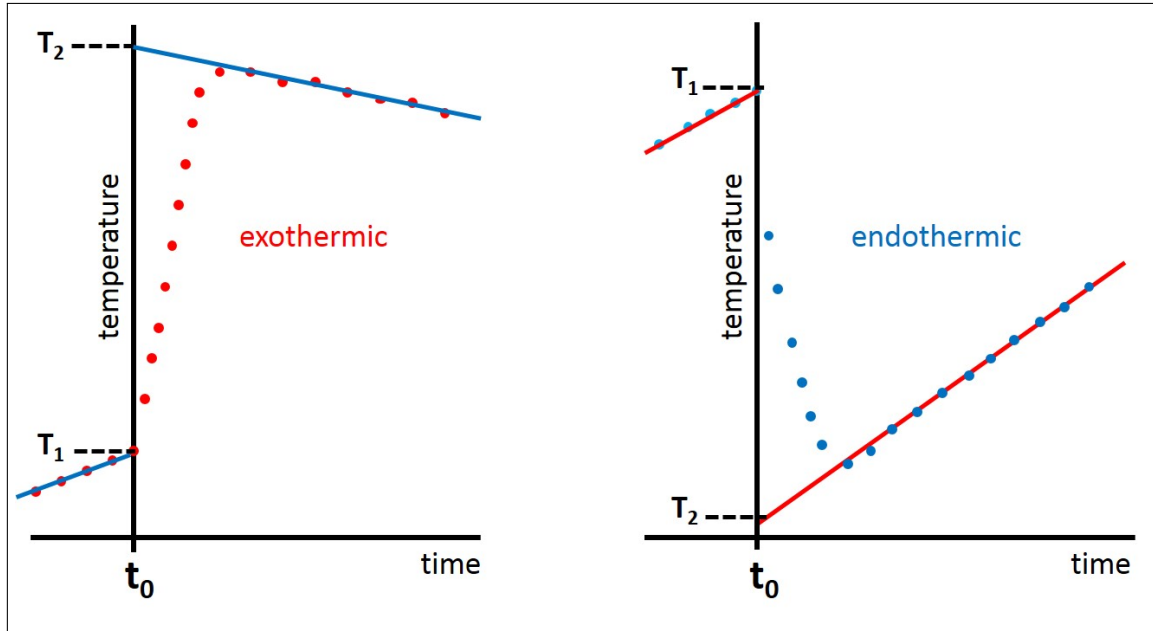

Figure 1: Calorimetric temperature – time curves and their evaluation.
2. The investigated process often does not take place instantaneously, which allows heat to be exchanged with the surrounding (environment), i.e., some of the heat to be determined disappears. This can be avoided either by using – usually expensive – thermal insulation materials and complex technical solutions, or by examining the pre- and post-life of the process. The latter method is illustrated in Fig. 1, where the curve on the left illustrates the measured temperature change of a process involving heat release and the curve on the right illustrates the temperature change of a process involving heat absorption. The process to be tested starts at time  $t_0$ , but the system temperature is recorded long before it. The time between the start of temperature recording and the start of the process is called the pre-period. The start of the main period is  $t_0$  and the main period includes the duration of the complete process studied. During the main period, the temperature change is determined by the heat of the process, but the heat exchange with the environment also begins. In the following post-period, the process, studied, has already taken place, here only the heat exchange with the surrounding determines the change in temperature. While a very sharp boundary can be drawn between the pre- and main periods at  $t_0$ , the transition between the main and post-periods is continuous, as shown in Fig. 1. If the temperature change in the pre-period is approximately linear2, extrapolating to  $t_0$ , we can get
- Plot all three series of measurements by showing the moment of  $t_0$  in the figure. The axes should be chosen so that the values of  $T_1$  and  $T_2$  (or  $T_{2,com}$ ) could be determined by simple graphical extrapolation (or straight line fitting, if you can use a computer program). Determine the value of these temperatures in all measurements (see Figure 1). It is not necessary to specify the statistical parameters of the fitted lines.
- From the last measurement, calculate the values of  $C_{cal}$  using Eq. (3).